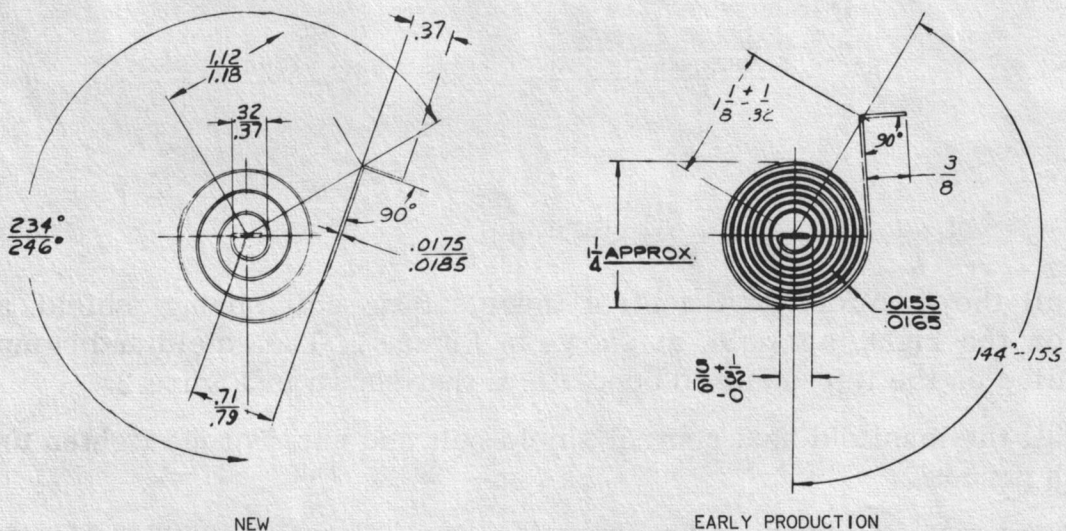

Figure 1
- (b) Inspect the manifold heat control thermostatic coil spring. If the spring has approximately (7) seven coils, remove the thermostatic coil spring and install a New Manifold Heat Control Thermostatic Coil Spring Part No. 2128933. This spring has approximately (5) five coils. See Figure 1.